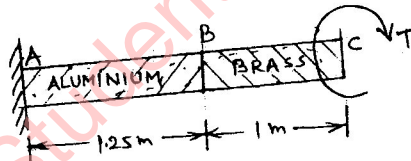

Fig. 3
3. Two compound shaft $AB = 1.25 \text{ m}$ and $BC = 1 \text{ m}$ having same diameter of 60 mm , made of Aluminium and Brass respectively as shown in Fig. 3. Find the maximum torque that can be applied at end C, if shear stresses in Aluminium and Brass are not exceed 80 N/mm^2 and 60 N/mm^2 respectively and the total angle of twist shall not exceed 1° . Take modulus of rigidity for Aluminium and Brass as $3 \times 10^4 \text{ N/mm}^2$ and $3.5 \times 10^4 \text{ N/mm}^2$ respectively. 20